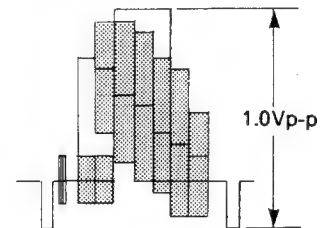

Figure 2-6
- (1) Make sure that R217 (Step 4-8, FM CARRIER) has been correctly adjusted otherwise this adjustment may not be completed.
- (2) Connect a 75 ohm resistor to the VIDEO OUT jack and connect an oscilloscope across this resistor.
- (3) Play the color bar portion of the alignment tape and adjust R205 so that the signal amplitude is measured 1.0 Vp-p on the oscilloscope as shown in Figure 2-6.